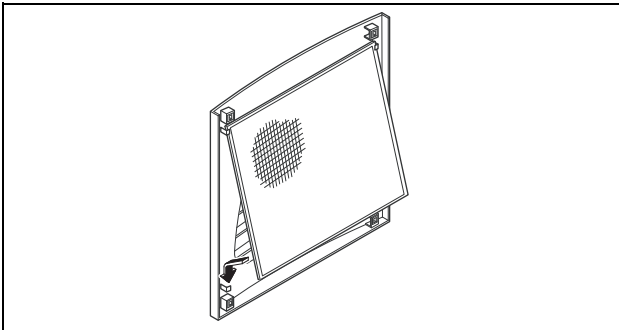

Fig. 30: Installing the filter mat
- Insert the filter mat into the louvred grille as shown in Fig. 30 and push it back onto the enclosure.